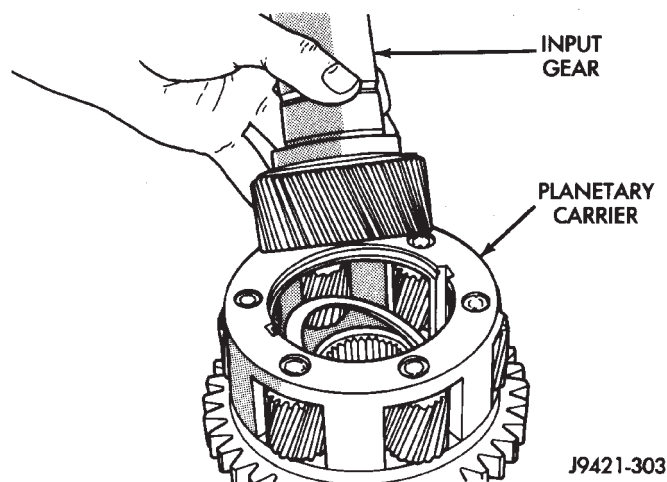

Fig. 44 Removing Input Gear From Planetary Carrier
(4) Remove input gear from planetary carrier (Fig. 44). Lift gear straight up and out of carrier.